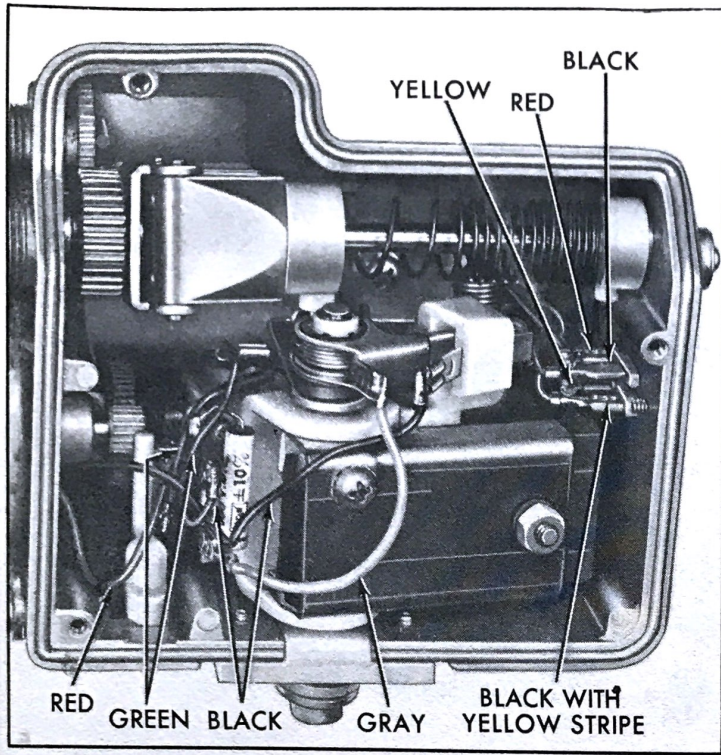

Fig. 15-22 Power Unit
4. Remove red motor wire at lower inboard terminal of auto relay switch (capacitor side), Fig. 15-22.
5. Disconnect black motor wire at close throttle motor feed point, Fig. 15-22, and free wire.
11. Disconnect red, black, black with yellow stripe and yellow wires from terminal board and remove assembly, Fig. 15-22.